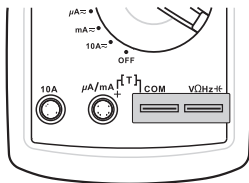

Figure 8
2. Refer to Figure 8, connect the adapter to the "COM" jack and the "V $\Omega$ Hz $\overline{\overline{\text{f}}}$ " jack.